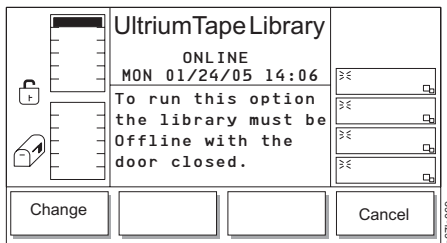

Figure 14-5. Library Submenu
2. Press the button below the **Library** softkey. The Library Submenu is displayed (see Figure 14-5).